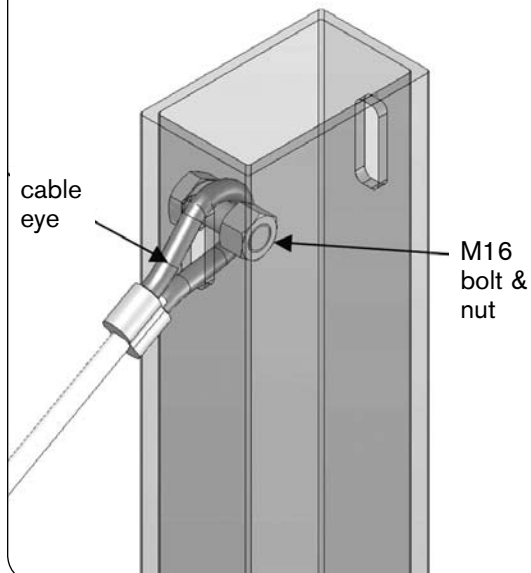

Fig. 10 Early Version cable-gin pole assembly details
- “A” and “B” model gin poles – using a 16 mm nut and bolt connect one cable end to the gin pole as shown in **Fig 10**. Connect the other end of the cable to the welded tab on the tower using one of the supplied shackles.
- “A” model gin pole only – connect the second cable to the gin pole using a 16 mm nut and bolt as depicted in **Fig 10**.